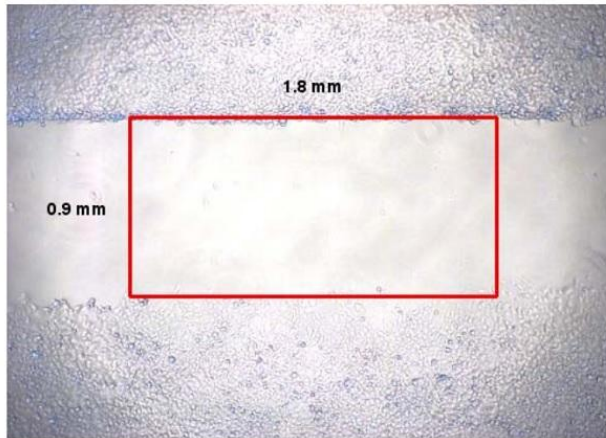

Figure 1. Example of Wound Field Surface Area.
- 7.1.10 For best results, use a reticle with micrometer measurements to create a defined surface area in order to monitor the closing, or 'healing' of the wound. Focus on the center of the wound field. Create the defined surface area by multiplying the width of the wound field (0.9 mm) by the length. See the example in Figure 1.
8.1.1 Determine the surface area of the defined wound area (see Figure 1): **Total Surface Area = 0.9 mm x length.**